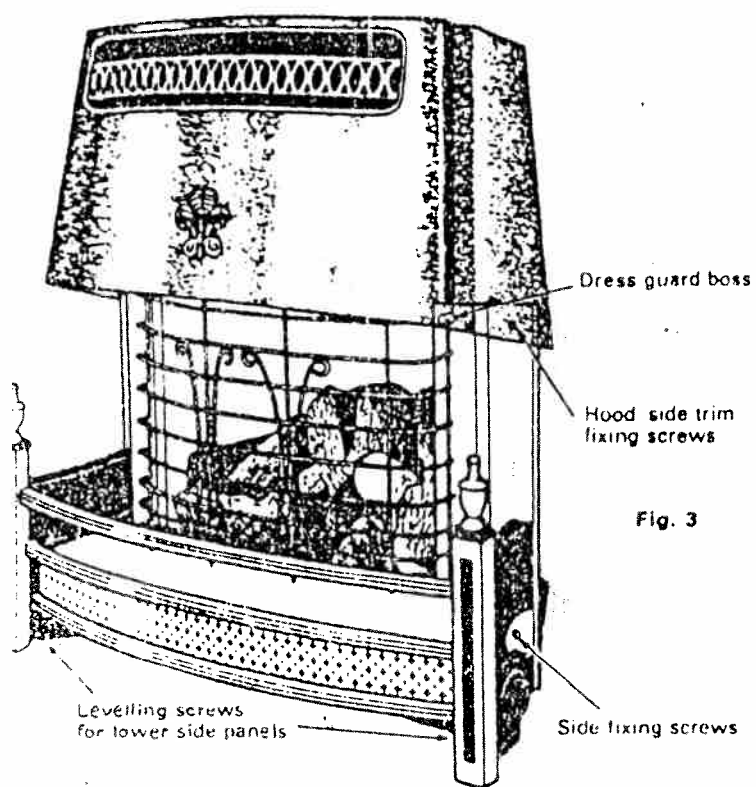

Fig. 3
- (1) Remove gas tap knob.
- (2) Unscrew the two screws holding the lower casing assembly (see Fig. 3) and lift away.
- (3) Remove the two screws concealed under the top hood. (As shown in Fig. 3). This will enable the hood and the two side trims to be removed.
- 5.3 Peel off protective film from side trims and apron. The left-hand and right-hand side trims can then be fitted and the two upper fixing screws inserted (see Fig. 3). These screws also fix the hood in position.
side (see Fig. 3). If necessary adjust the two levelling screws located just behind the front legs (Fig. 3) so that they touch the hearth.
5.5 To fit the dress guard place the lower pegs into the holes in the bottom apron, and by bowing the top locate the upper pegs in the bosses fastened to the side trims (Fig. 3).
To remove the dress guard (Fig. 3) spring the two top horizontal logs out of their chrome plated bosses and lift the guard out of its bottom location. The log(s) or coke can now be removed as required. Replace the logs and coke as shown in Fig. 7. Replace the dress guard.